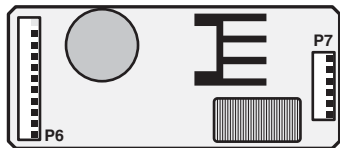

Figure 6-6 R48S Interface Connectors
- Mate the R48S connectors P6 and P7 (Figures 6-6~6-9) with the R48S connectors P6 and P7 on the BSTU or RSTU.